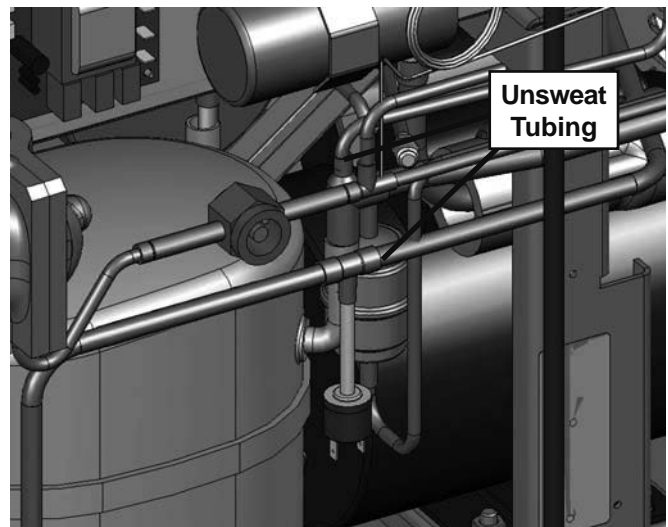

Figure 5-4 Compressor Removal - F112
- E. Remove the insulation around the tubing on the suction line going to the compressor and unsweat the suction line from the compressor. (Fig. 5-4)